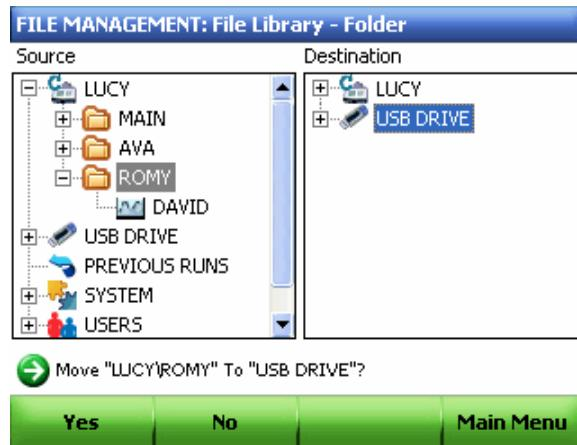

Figure 84. The source and destination folders are highlighted in this example.
5. Using the up and down arrow keys, select new destination for the folder as shown in Figure 84.